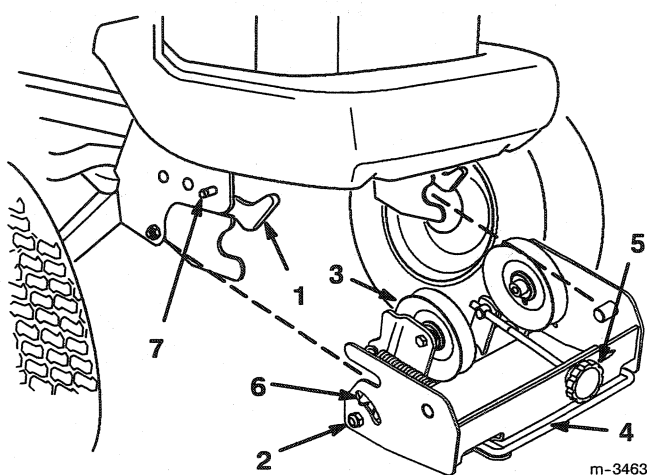

Figure 4
4. Attach the pulley box if it is not already on the tractor. Make sure the latches on the tractor's front Quick Attach are open (Fig. 4). Then slide the pulley box into the Quick Attach latches and seat it. Close the latches.